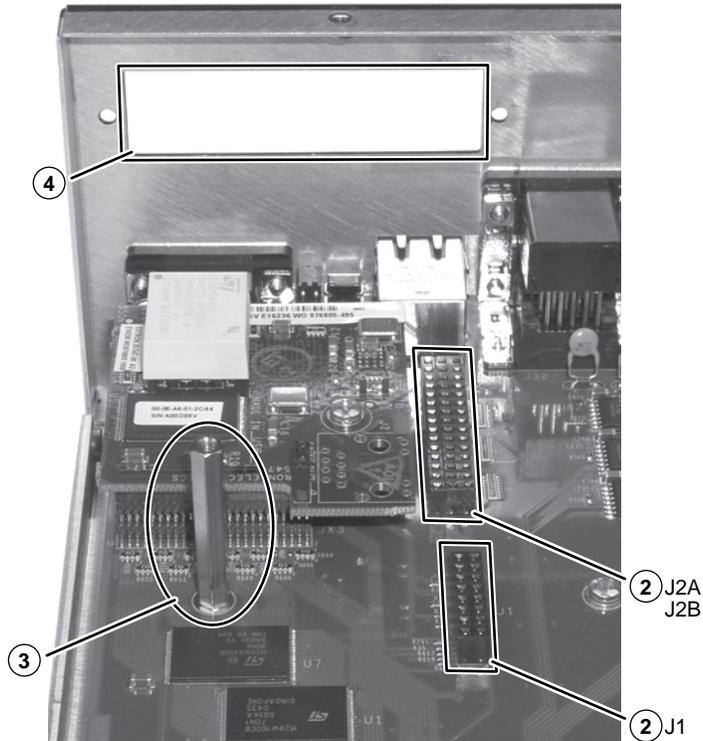

Figure 7-7 — Output board installation location
3. On the main board (figure 7-7), locate connectors J1, J2A, and J2B (②); the standoff (③); and the rear panel connector port (④).